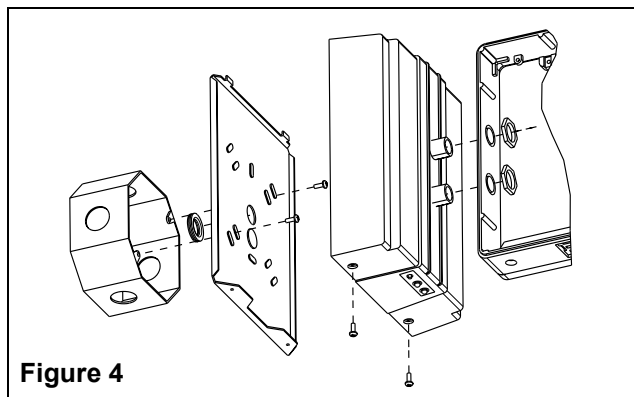

Figure 4
11. Push hex. nipples, attached to canopy, through knockouts in exit frame (see fig. 4). Fasten canopy to exit frame using large hexagonal nuts. Thread nuts onto nipples and tighten.
16. Mount EXIT sign and canopy assembly to canopy backplate by guiding the notches on the canopy backplate into the slots of the canopy. Secure with the two provided screws (see fig. 4).